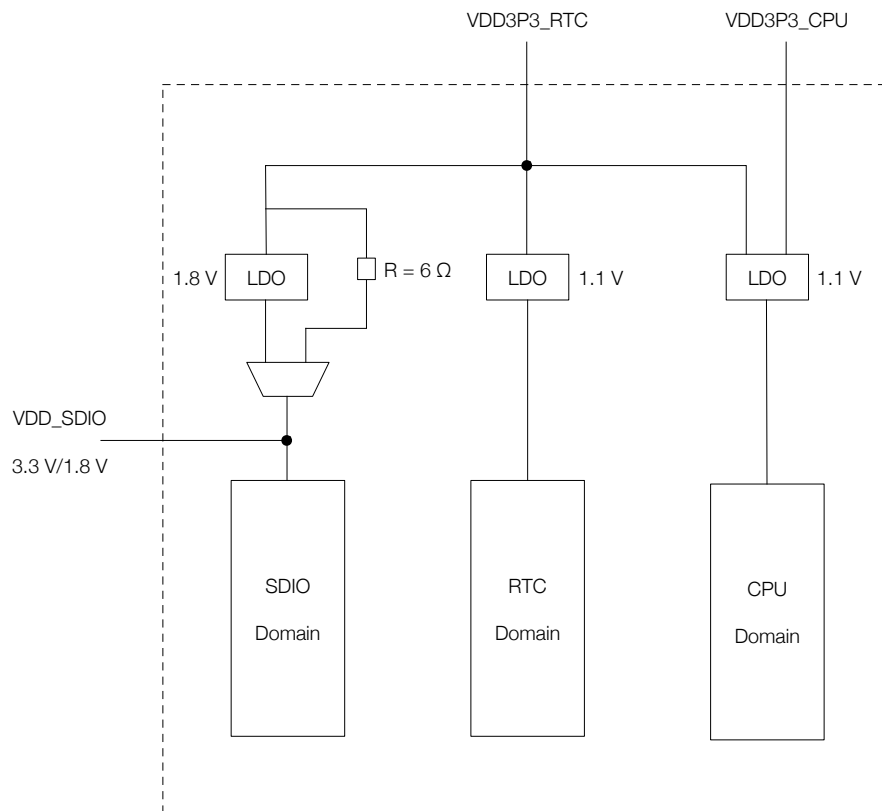

Figure 4: ESP32 Power Scheme
3. As the embedded flash/PSRAM in ESP32-U4WDH/ESP32-D0WDR2-V3 operates at 3.3 V, VDD_SDIO must be powered by VDD3P3_RTC via a 6 Ω resistor. See Figure 4.